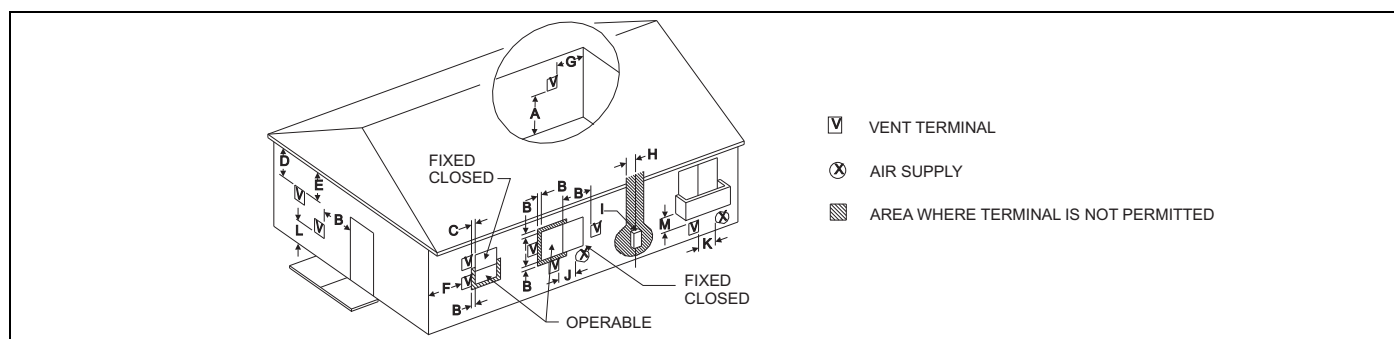

FIGURE 27: Home Layout
*The vent must be installed with the minimum clearances as shown in Figure 27, and must comply with local, state, regional codes and requirements.*